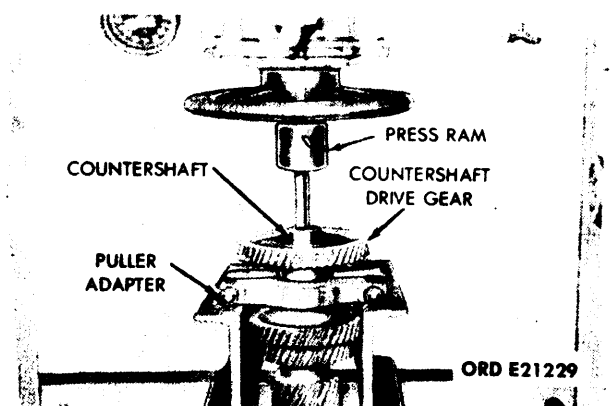

Figure 3-38. Removal of Countershaft Drive Gear (Fifth-Speed Gear).
(1) Using a pair of pliers, remove snapping. Position countershaft on press as shown in figure 3-38. Install a puller adapter under the drive gear and press the shaft from the gear. Remove woodruff key.
(2) Install woodruff key in countershaft at fifth-speed gear position. Coat countershaft and fifth-speed gear bore with a light coating of grease, artillery and automotive (GAA), MIL-G-10924. Place the countershaft and fifth-speed gear (countershaft drive gear) under the press, line up the woodruff key with the slot in the gear and press into position. Secure gear in place with a new snapping. See figure 3-38 for positioning of the fifth-speed gear.